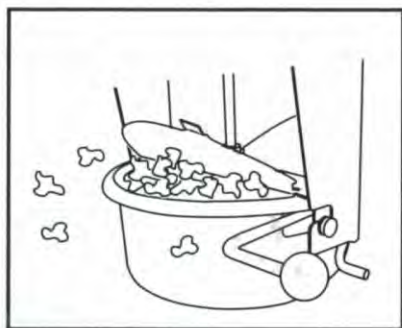

Fig.4
10. Popcorn starts popping out through the lid after about 2 to 3 minutes. (Fig. 4)